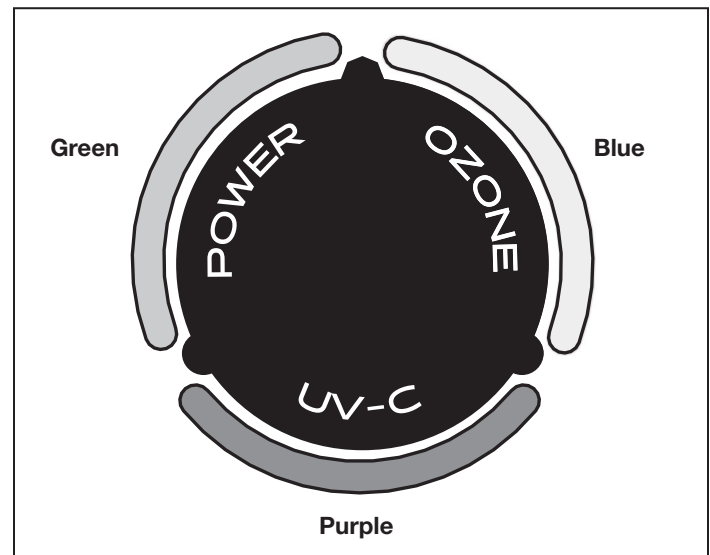
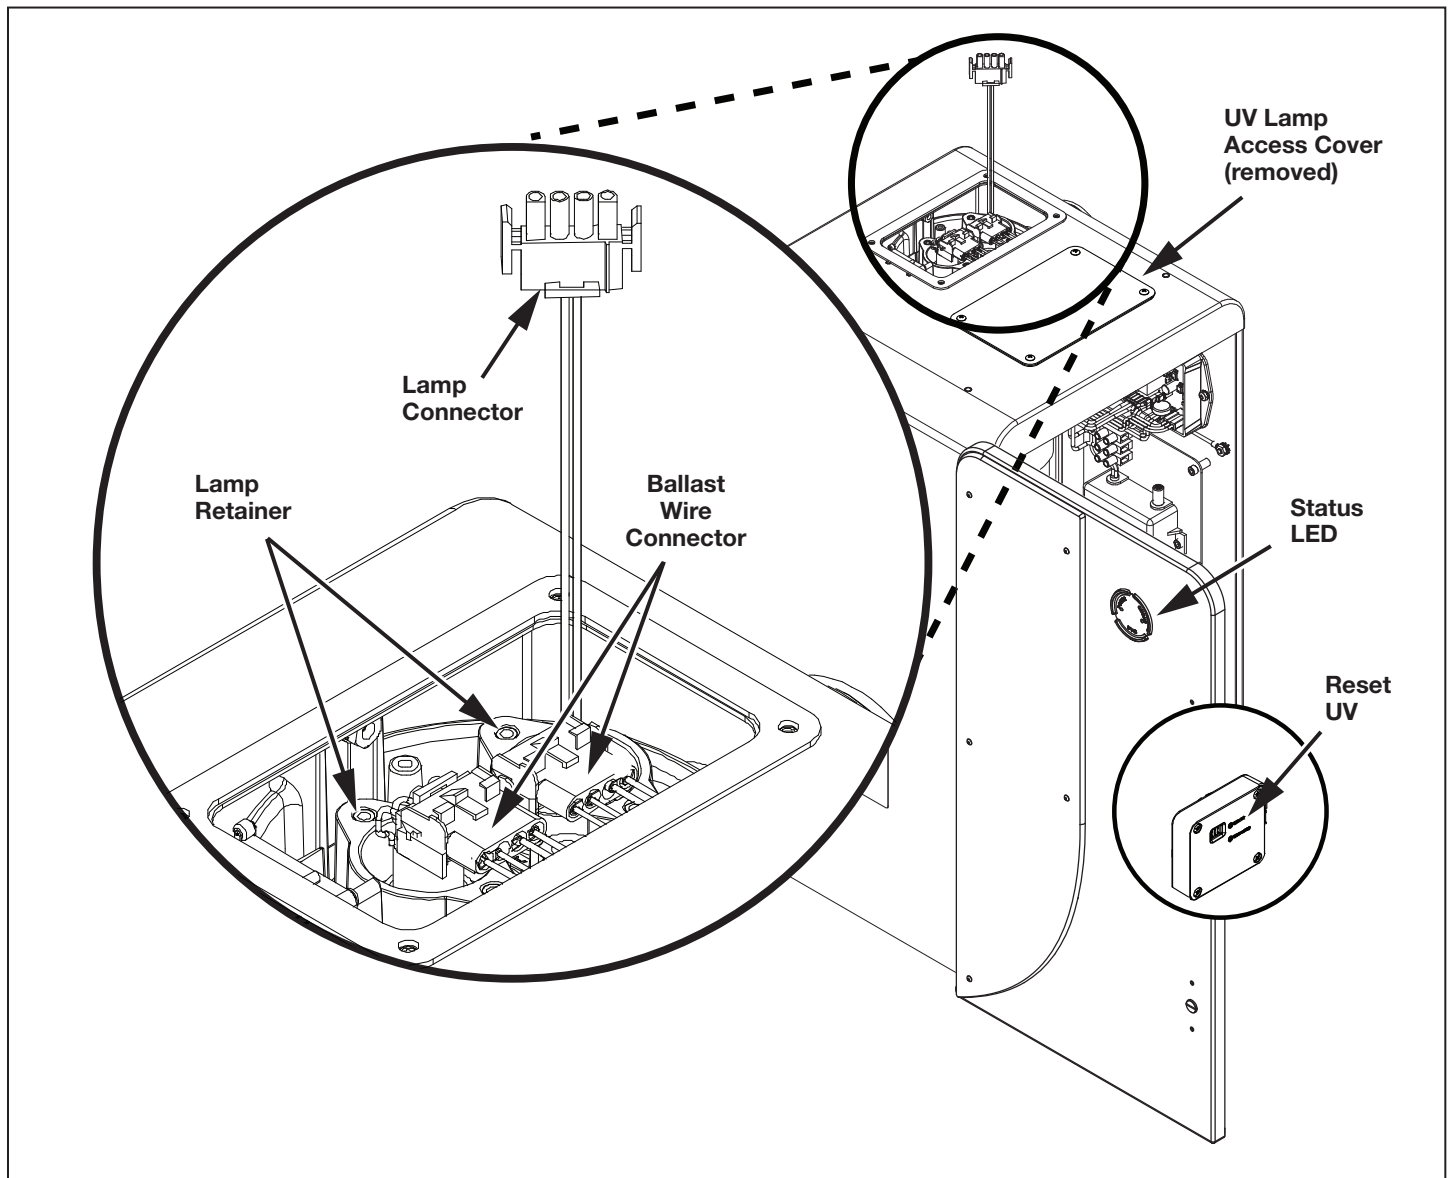

Figure 8. Status LED Indications at Normal Operation
Figure 14. UV Lamp Replacement
The Jandy AOP has indicator lights (Figure 8) to indicate its working condition. The lights should display the correct colors after the pump has reached steady flow (see section 2.2.4 *Recommended Flow Rates*). During normal operation, refer to Table 1 below for status information.
There are two lamps in each Jandy AOP unit. The purple UV-C light on system Status LEDs indicates UV lamps are operating properly (see Figure 8). If the UV lamp access panel is removed while the unit is running, the unit will be shut down automatically (see Figure 14). The lamps are each housed in a quartz tube that protects the lamp.
2. Use a Phillips-head screwdriver to remove the four (4) screws holding the access cover. See Figure 14.
4. Disconnect the lamp connectors from the ballast wire connectors. Then grasp the UV lamp wires and gently pull until the top of the UV lamp has pulled past the lamp retainer tabs. See Figure 14.
- Reset UV-C indicator by pressing the Reset UV button on the inside door behind the Status indicators. See Figure 14 inset.
- Secure the UV lamp access panel using the four (4) screws once the system is operational.
- Locate the UV lamp access panel on the top of the Jandy AOP. Remove the four (4) screws with a Phillips head screwdriver, and remove the panel. See Figure 14.